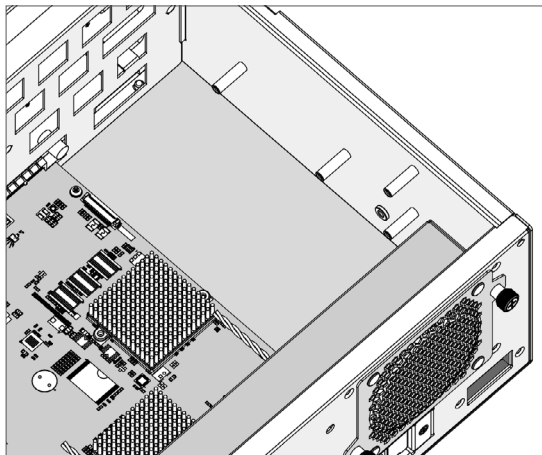

Figure B-9, Removing the Cover
1. Loosen the screws and remove the cover from the ARC-7216 enclosure, as shown in Figure B-9.